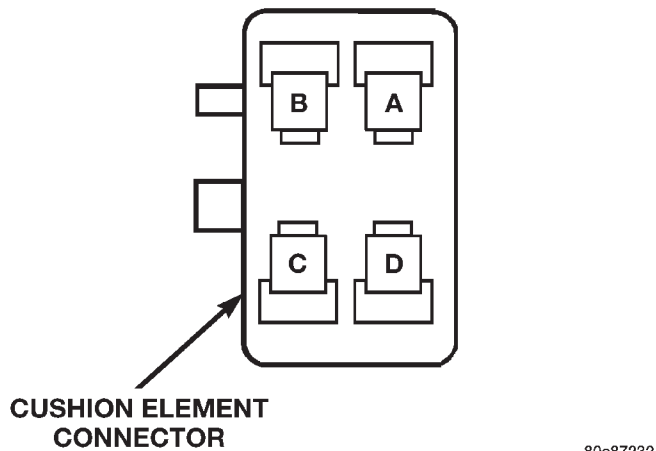

Fig. 2 Seat Cushion Element Connector
(1) Disconnect and isolate the battery negative cable and remove the seat from the vehicle, refer to Front Seats in Group 23.
(2) Disconnect the green 4-way heated seat cushion connector and check for continuity between pins A and B of the heated seat cushion connector. There should be continuity, if OK, test the heated seat back for continuity. If not OK, check the green 2-way seat cushion connector. If OK, replace the faulty seat cushion cover (Fig. 2).